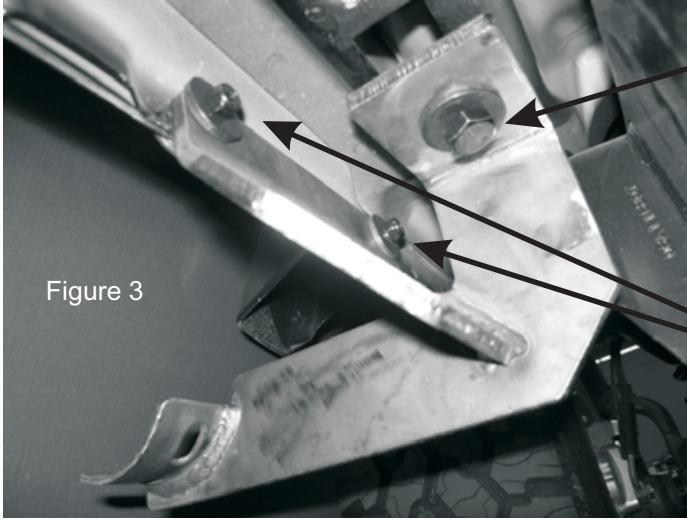
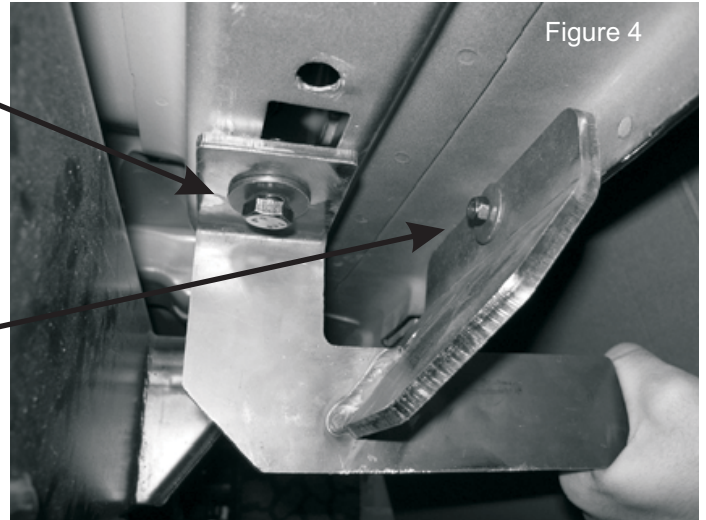

Figure 3
Figure 4
3. Locate two factory holes on the front driver side pinch weld. Attach the Front Driver Side Mounting Bracket to the pinch weld using the included (2) 6-1.00mm x 25mm Allen Bolt, (2) 6mm Nylock Nut, and (4) 6mm Fender Washers (Figure 3). Do not tighten at this time.
- a) For 2007 - 2011 models - Attach the Front Driver Side Mounting Bracket to the under side panel using the included (1) 10mm x 35mm hex head bolt (1) 10mm lock washer and (1) 10mm flat washer. See Figure 3. Do not tighten at this time.
- b) For 2012+ models - Attached the Front Driver Side Mounting Bracket to the under sidepanel using the included (1) 8mm x 35mm hex head bolt (1) 8mm lock washer and (1) 8mm flat washer. Do not tighten at this time.
5. Repeat steps 2 - 4 for rear driver side, front and rear passenger side Mounting Brackets. NOTE: You will only use (1) 6-1.00mm x 25mm Allen Bolt to attach both rear brackets to pinch weld (Figure 4).